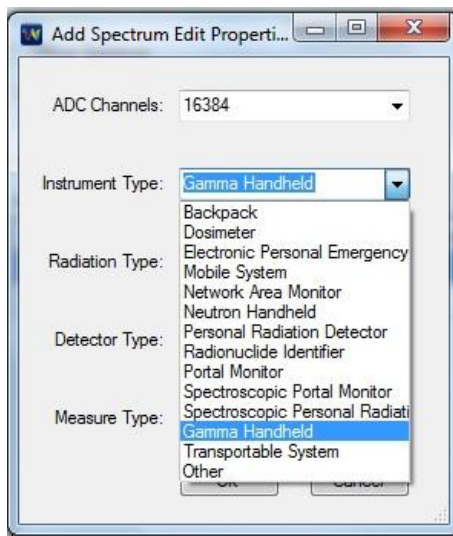
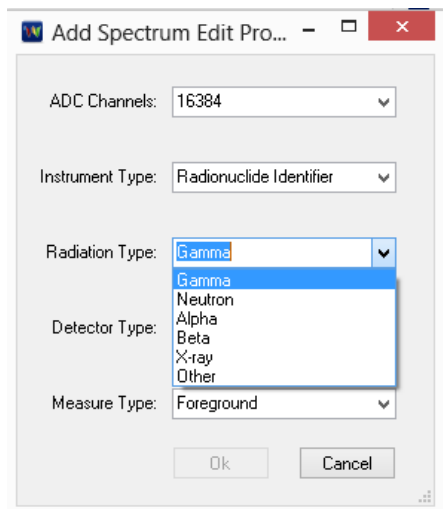

Fig. 4.7: MC²Analyzer Wizard Dialog Box – “File/Add Spectrum/EditProperties” Dialog Box - Instrument Type Pull Down Menu
Fig. 4.8: MC²Analyzer Wizard Dialog Box – “File/Add Spectrum/EditProperties” Dialog Box - Radiation Type Pull Down Menu
- **Initial Spectrum**, that allows to upload an initial spectrum to be added to the online spectrum. The “...” button allows to browse a spectrum to be loaded. The button “**Edit**” allows to modify the spectrum properties. See Fig. 4.7 and Fig. 4.8;
The user can tag the spectrum files by left clicking on the “**Edit**” key of the corresponding channel line. The **Add Spectrum Edit Properties** Dialog Box will appear as in Fig. 4.7. The five Pull Down menus allow the user to indicate:
From the **Detector Pull Down Menu** (See **Fig. 4.8**) the user can associate to the recorded file the type of Detector that was used to execute the measurement.